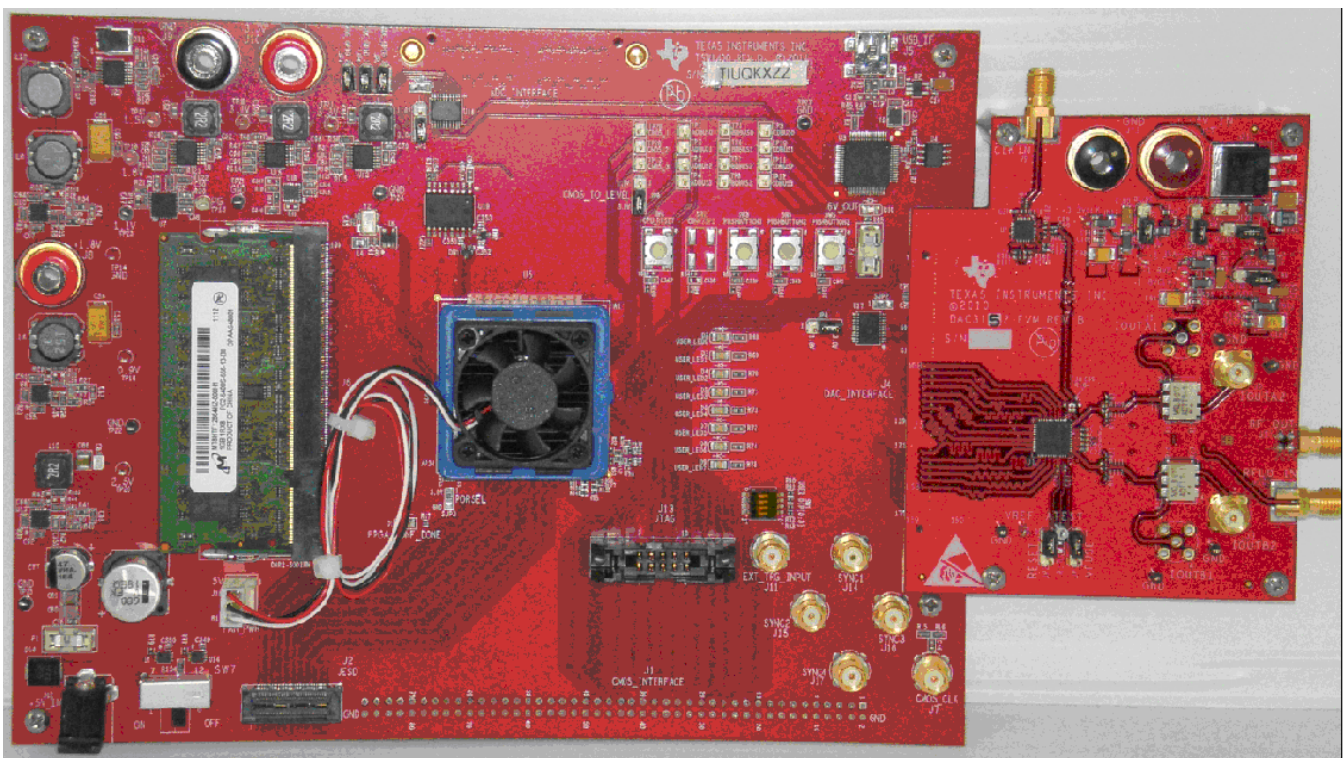

Figure 12. TSW1400 EVM Interfacing to a DAC EVM
- A TSW1400 EVM connected to a DAC3152 EVM is shown in Figure 12.